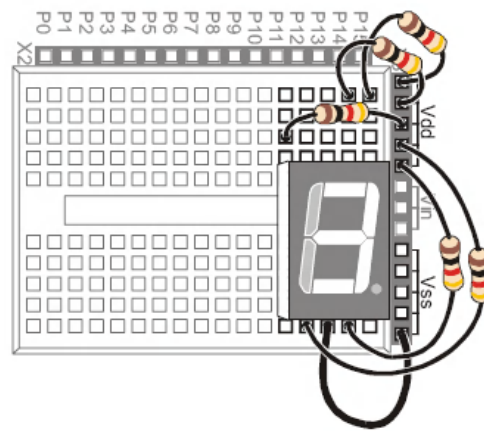

Fig 4.9: 7-Segment display test circuit (Number 3)
- Disconnect the power, and build the circuit shown in figures 4.9 and 4.10 to display number 3.